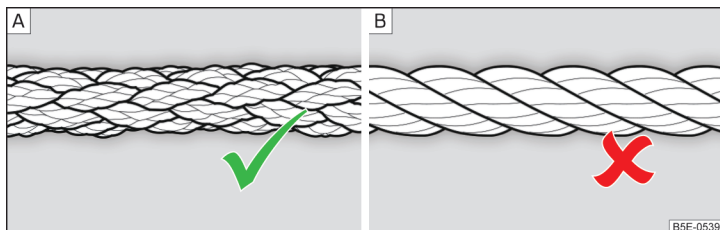

Fig. 336 Braided tow rope / Spiral tow rope
For towing using a tow rope, use only a braided synthetic fibre rope » Fig. 336 - [A] » **!**
- Wound tow ropes must not be used for towing » Fig. 336- [B], the towing eye may unscrew out of the vehicle - risk of accident.